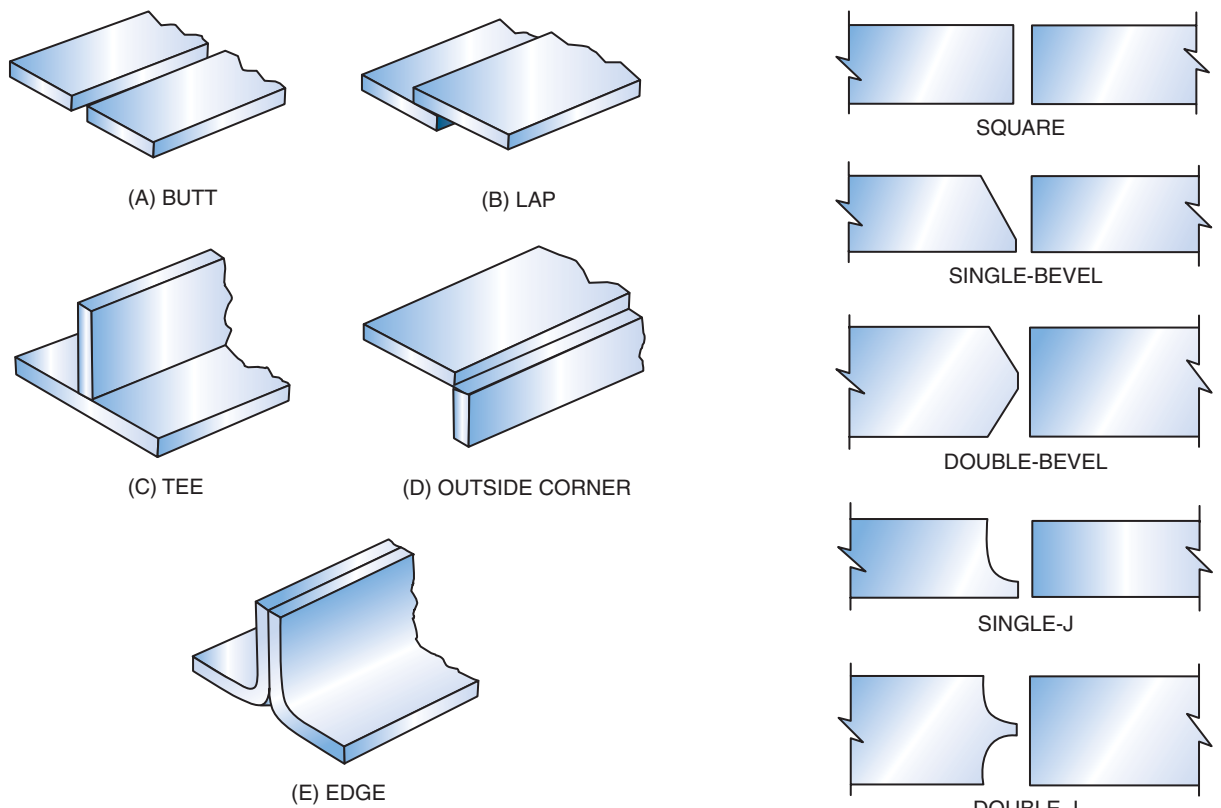

Figure 3.2 Types of joints
- **joint type**—The type of joint is chosen by analyzing the way that the joint members come together, Figure 3.2.